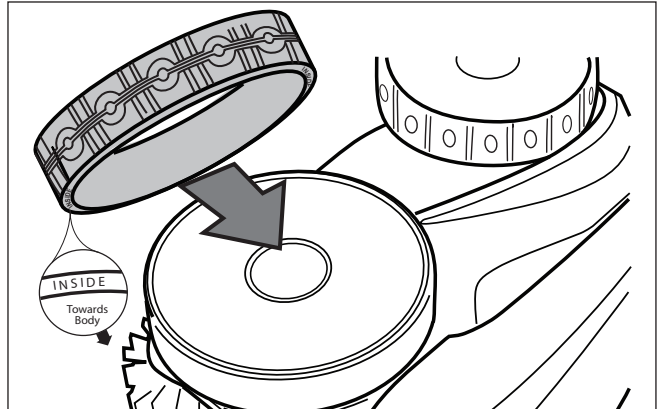

Figure 30. Tire Replacement Orientation
3. Remove the old tyre. See Figure 30.
4. To replace the tyre, position the tyre on the wheel making sure to orient the tyre so that the word **INSIDE** is toward the body of the cleaner (Figure 30).